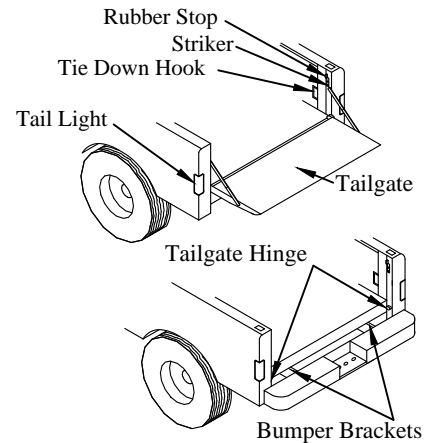

Figure 5: Remove Hardware.
1. **Remove** the tailgate (Figure 5).
2. **Remove** the tailgate strikers and rubber stops (Figure 5).